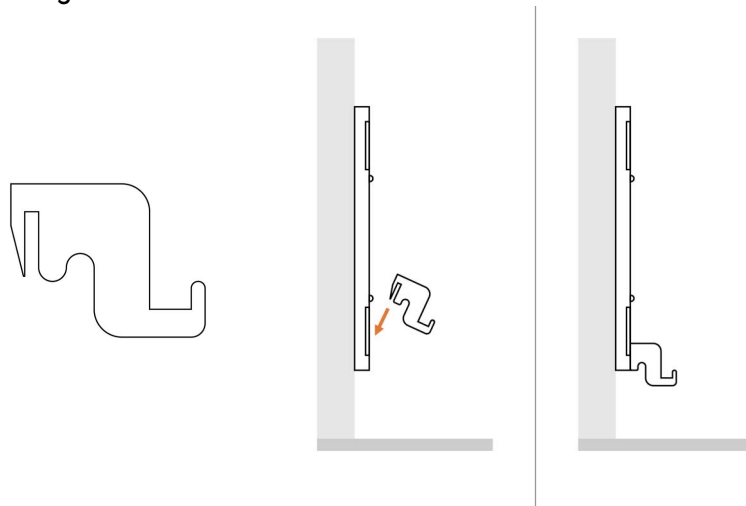

Figure 5 | Inserting bottom hooks
- Fit the two bottom hooks into the slots on the U-rails with the hook facing up, as shown in **Figure 5** below.